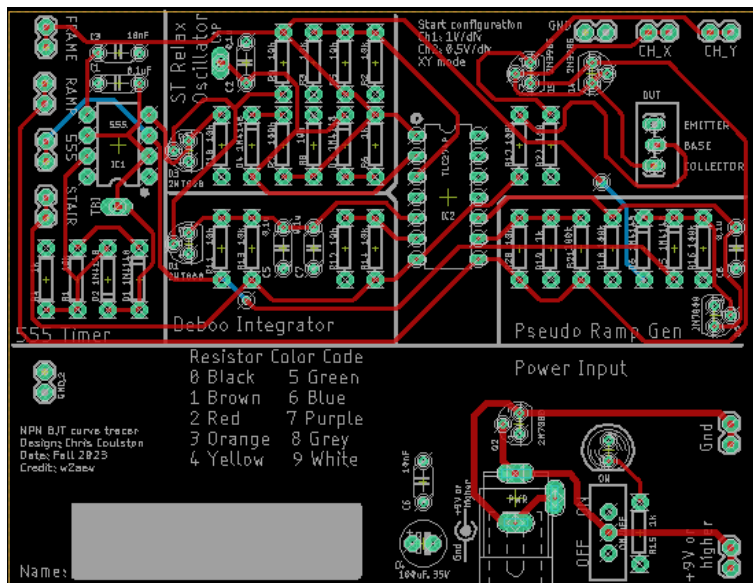

Figure 10: The layout of the BJT curve tracer.
The schematic in Figure 9 is the starting point for the layout shown in Figure 10. The physical position of the parts in the schematic and layout are unrelated. The schematic is an abstraction of the finished layout. The layout contains all the data used in the fabrication of the PCBs – the layout and the fabricated PCB are identical. Take a moment to look at the layout and compare it to the PCB for the curve tracer paying attention to the following bullet points.
- The green circles in Figure 10 are the layout are plated through holes in the PCB.
- The red lines in Figure 10 are traces (wires) on the top side of the PCB.
- The blue lines in Figure 10 are traces (wires) on the bottom side of the PCB.
- The grey lines and text in Figure 10 are white silk screen on the PCB.